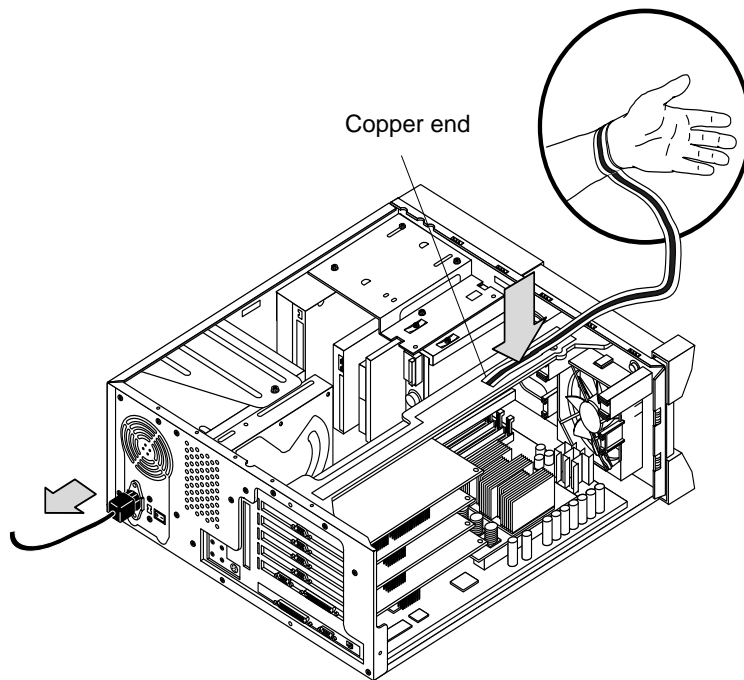

FIGURE 2-6 Attaching the Wrist Strap to the Ultra 10 Chassis
3. Attach the copper end of the wrist strap to the chassis (FIGURE 2-6).